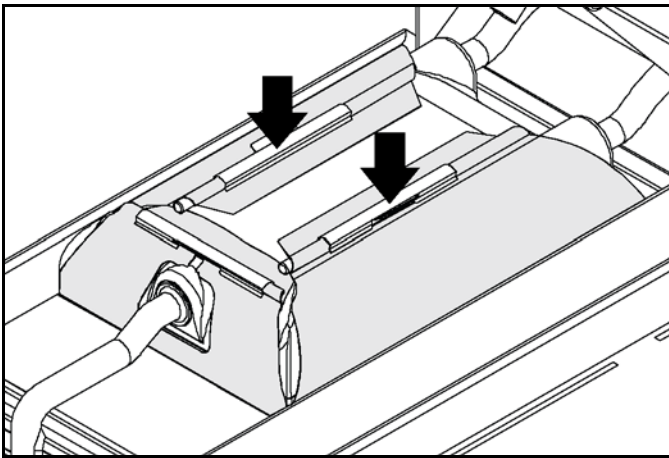

Figure-17
1. Carefully wrap the release sheet side flaps over the side cover rails. Secure the sheet with the locking clips. The back edge of the sheet will not be secured, but instead will hang free. See Figure-17.